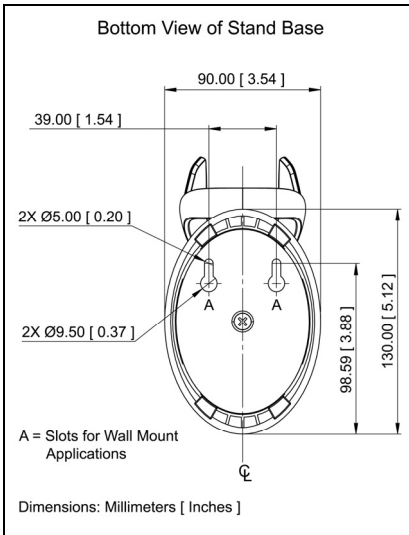

Figure 16.
3. Locate the two slots marked as "A" on the stand base in *Figure 16*.